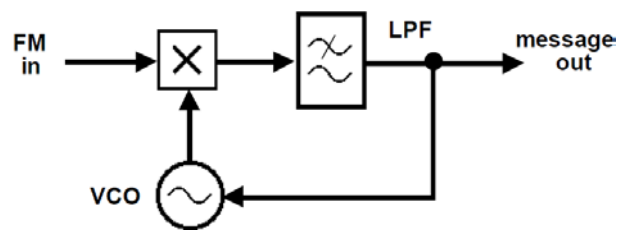

Figure 1: the PLL
The block diagram of a phase locked loop (PLL) is shown in Figure 1. The principle of operation is simple. Suppose there is an unmodulated carrier at the input. If the VCO was tuned precisely to the frequency of the incoming carrier, ω_o , then the instantaneous output would be a DC voltage, of magnitude depending on the phase difference between the output of the VCO and the incoming carrier. Now suppose the that the incoming carrier started to drift slowly in frequency. Depending upon which way it drifts, the output voltage will vary accordingly. If the incoming carrier is frequency modulated by a message, the output of the PLL will follow the message.
2. Model the PLL demodulator illustrated in Figure 1. For the filter use RC LPF provided in the UTILITIES Module. In the MULTIPLIER module set the toggle switch to AC. Draw the corresponding module diagram.